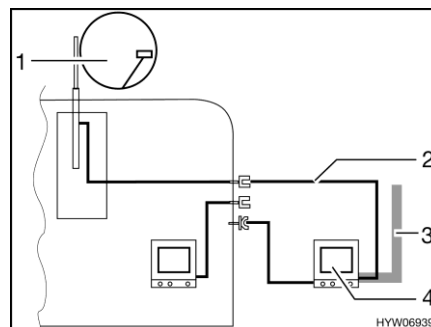

Fig. 148 TV in the awning
- TV inside the awning (Fig. 148,4): Connection to roof antenna (Fig. 148,1) with connection cable (Fig. 148,2)
- TV inside the awning (Fig. 148,4): Connection to external antenna (Fig. 148,3)